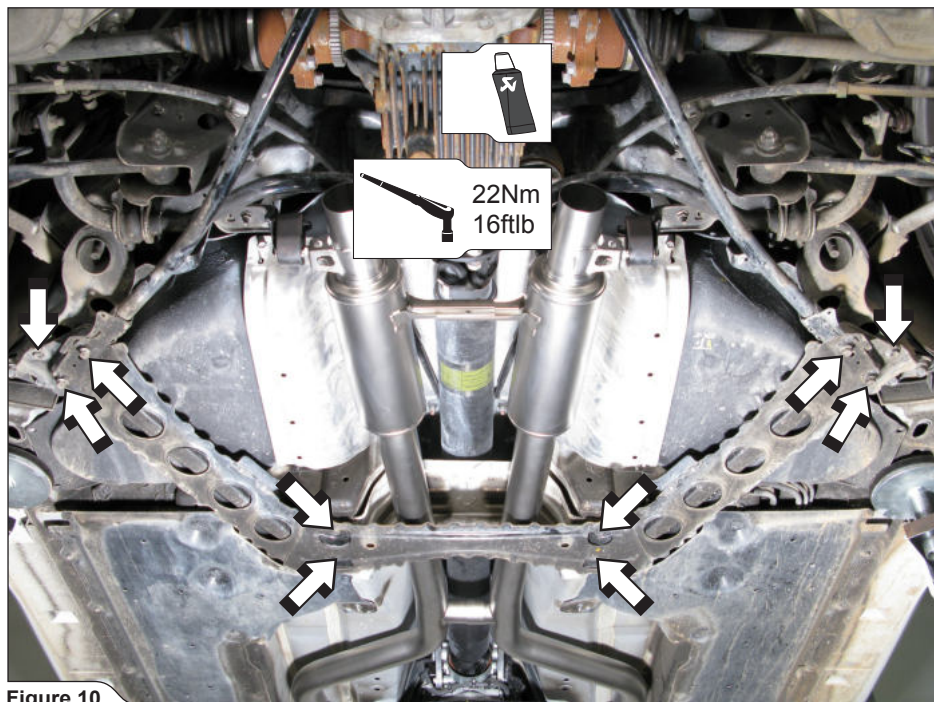

Figure 10
4. **For Evolution only:** tighten to a specified torque all the chassis reinforcement bolts (**Figure 10**).